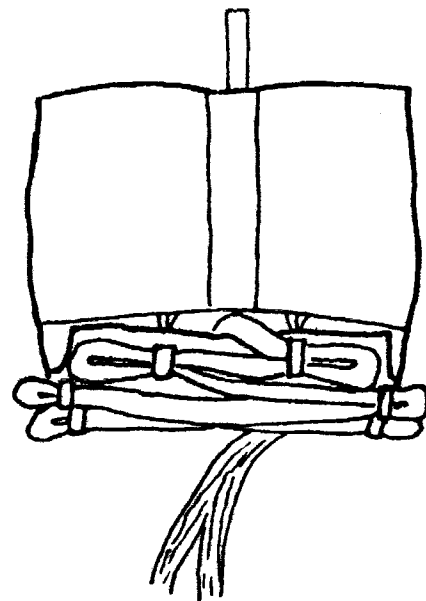

FIG. 10
9) Stow the rest of the suspension lines in the elastic bands which have been installed in the loops at each side of the bag. It has become common practice to "double-stow" these line stows by wrapping each band around the lines twice for a better grip. Experience does indicate that deployments are more consistent and better staged when the lines are double-stowed. However, *do not double-wrap the locking stows*. After stowing the lines as described, the bag should look like FIG. 10, and there should be 10" to 12" of lines unstowed between the last stow and the risers.